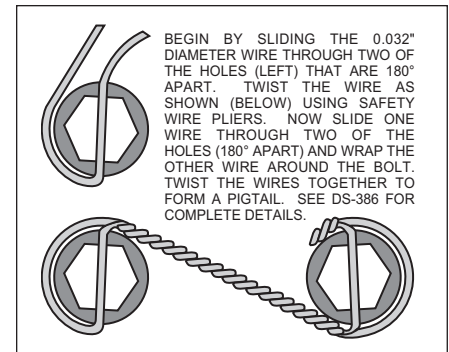

Figure 3. Safety Wire Diagram
- With the larger I.D. side of the rotor (3) facing away from the hat (4), bolt rotor (3) to hat (4) through the backside of the rotor using washers (5) and bolts (6). Torque bolts (6) in an alternating sequence to 85 **in-lb**. Safety wire bolts (6) using standard 0.032 inch diameter stainless steel safety wire as shown in Figure 3. Please refer to Wilwood's data sheet DS-386 (available at www.wilwood.com/pdf/ds386.pdf) for complete safety wire installation instructions. Slide the rotor/hat assembly onto the spindle. Check to be sure the hat seats squarely against the hub. Install a couple of lug nuts (finger tighten) to keep the rotor/hat assembly in place while continuing with the installation.
- NOTE:** Please reference the caution statement at the beginning of the assembly instructions. Install one washer (11) over each pre-installed stud (10) on the radial mount bracket (1). Slide the caliper (7) in place over the studs and rotors and install the washer (9) and lock nut (8) to hold the caliper in place. The caliper bleed screws should be pointing up. Snug the lock nuts (8) and check that the rotor (3) is centered in the caliper (1). Add or subtract .02" shims (11) as necessary between the caliper mounting bracket (1) and the spindle to center the caliper (7).
- Remove the caliper center bridge pad retainer bolt, nut, and tube from the caliper. Slide the brake pads (12) into place. They should install easily without interference. Check that the outside radius of the brake pad is aligned with the outside diameter radius of the rotor face. Add or subtract shims (11) between the caliper and mount bracket to gain the proper alignment. Reinstall the center bridge pad retainer tube, bolt, and locknut. The locknut should be snug without play in the bolt or tube. Be cautious not to over tighten.
- Once all clearances have been checked, remove the wheel, caliper, hat, and rotor from the spindle and hub. Secure the caliper mounting bracket (1) to the spindle with original stock bolt using red *Loctite*® 271. Torque the bolts to manufacturers specifications. Reinstall the hat and rotor assembly and again use lug nuts to hold it in place. Lubricate caliper mounting studs and nuts with lightweight oil, reinstall the caliper, torque the caliper nuts (12) to 30-35 ft-lb.